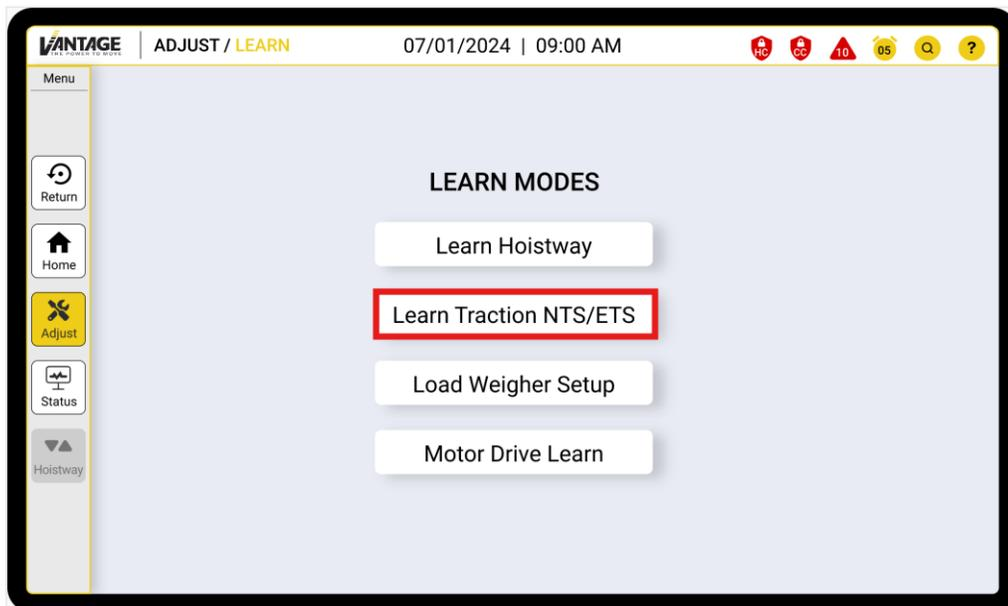

Figure 36: Learn Traction NTS/ETS
4. Select Learn Traction NTS as shown in figure 36.